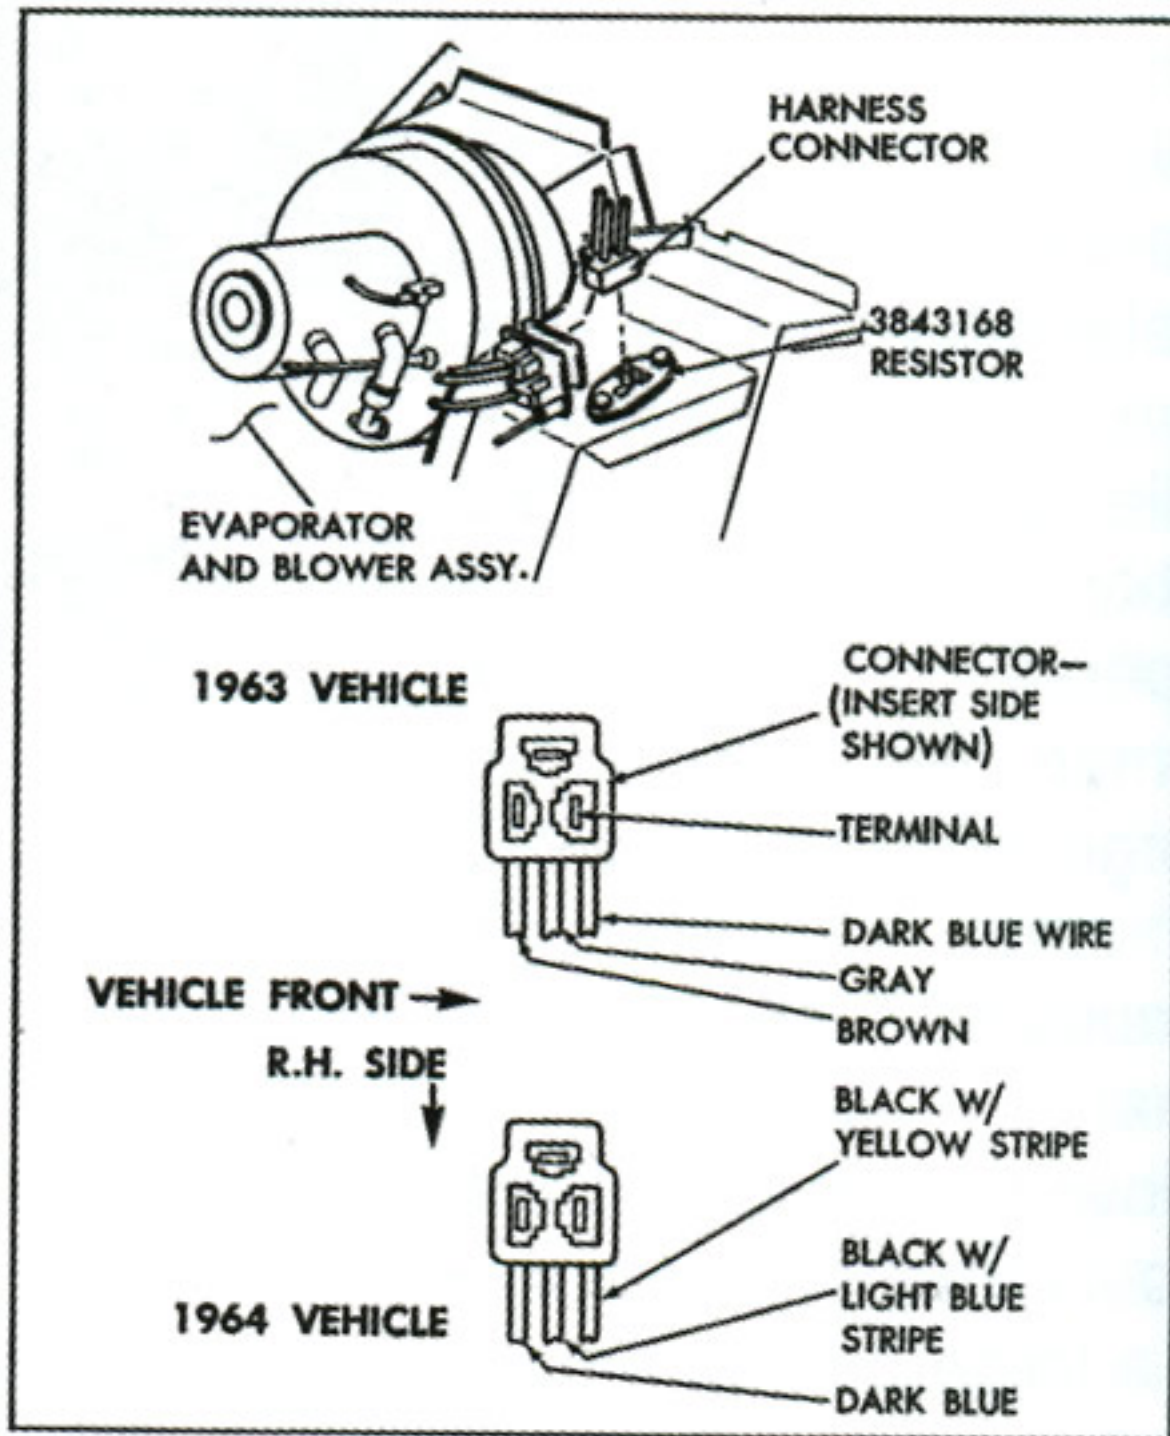

Fig. 1—Rework of Blower Motor Circuit
2. Reverse the location of two leads in the multiple connector that plugs into the blower motor resistor assembly; reinstalling the color coded leads in the connector body at the locations show in Fig. 1.